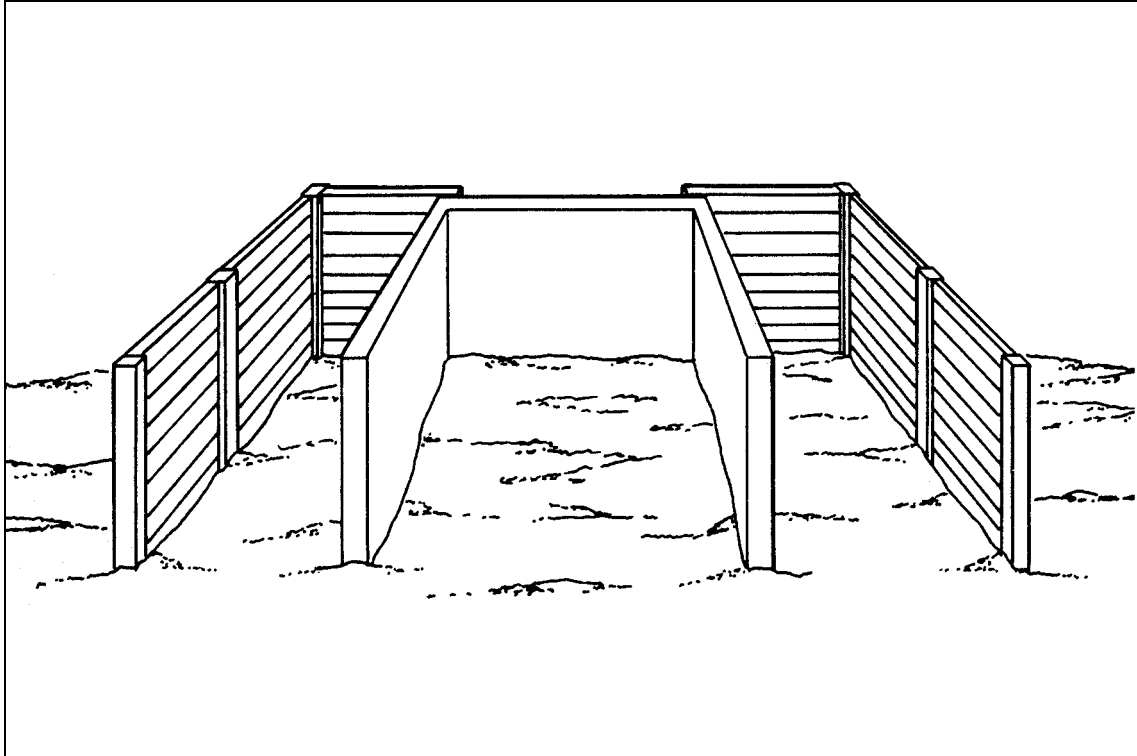

**Figure B-1. Throwing pit with knee wall.**
a. **Throwing Pit With Knee Wall.** It is recommended that all throwing pits for live grenade training have knee walls (Figure B-1). Knee walls provide the quickest and safest means of reacting to a dropped grenade. In most instances, the throwing pit safety NCO reacts to a dropped live grenade by yelling GRENADE to alert all other personnel in the area and by physically pushing the thrower over the knee wall, then falling on top of him. If a hand grenade is dropped over the knee wall, the throwing pit safety NCO yells GRENADE and forces the thrower to the ground inside the throwing pit.